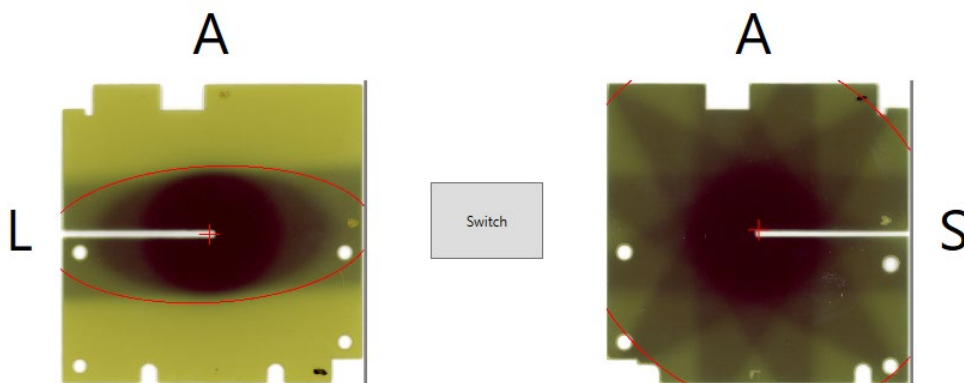

Figure 7-6 Initial orientation of film after image loading
- Select the desired image by clicking on it and clicking **Open** (see Figure 7-6).